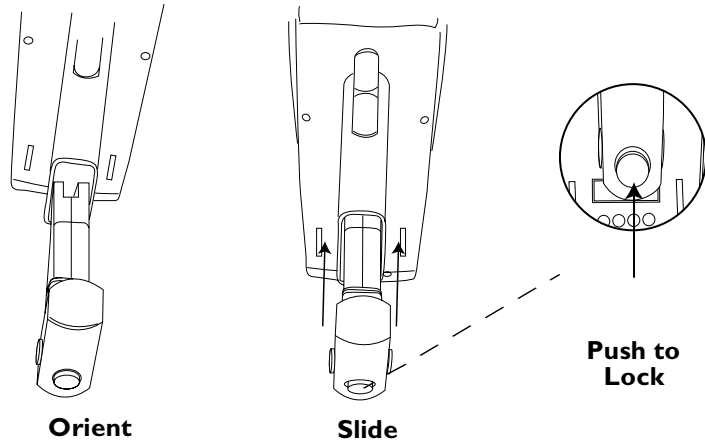

Figure 6-2. Installing the Battery Pack
1. Orient the battery pack with the handle facing the terminal's scan window (Figure 6-2).